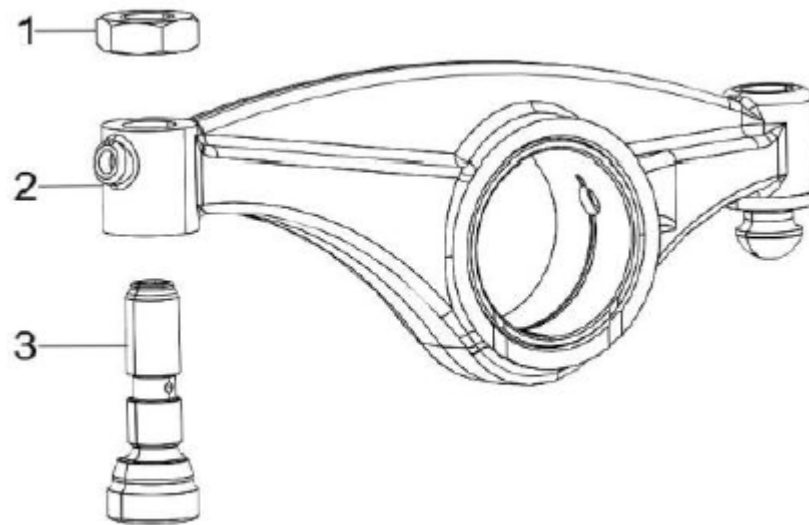

Figure 78. Rocker Arm Assembly
6. If removed, reinstall the valve adjusting screws (Figure 78, 3) and the lock the nuts (Figure 78, 1).